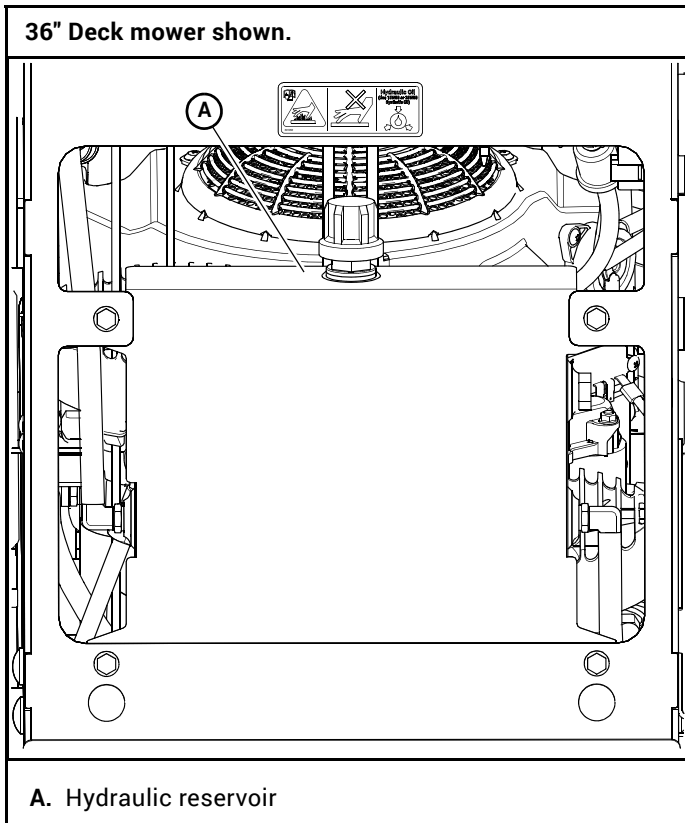
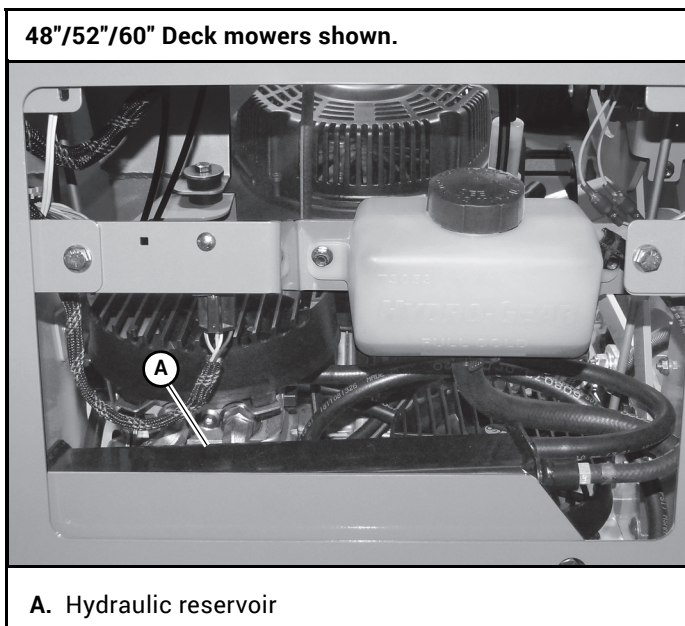

Figure 4-6
Figure 4-7
**NOTE:** The reservoir (Figure 4-6 & Figure 4-7) will require approximately 1.0 U.S. gallons (3.78 liters) of full synthetic **15W50 or 20W50** oil when replacing the oil after an oil and filter change. **Do not** overfill the reservoir.